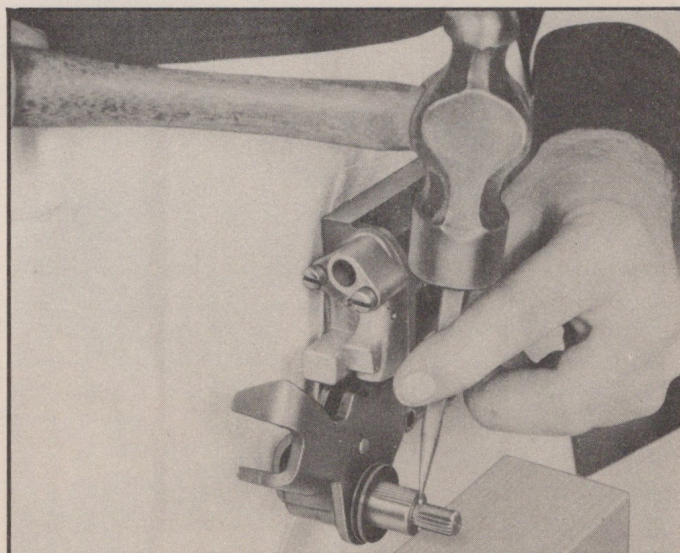

Fig. 222—Driving Out Throttle Valve Shaft Pin
1. Drive out the throttle valve shaft pin (Fig. 222).